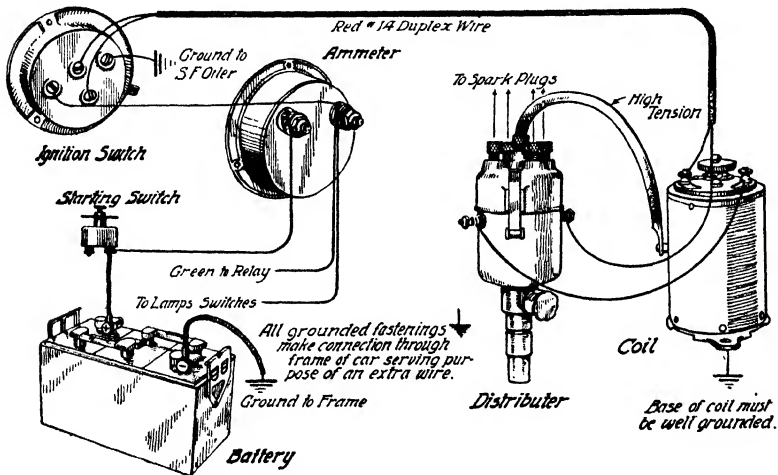

Fig. 125. Essentials of Battery Ignition System
**Remy System.** The relation that the various essentials of a battery-ignition system of the types here described bear to each other is made clear by glancing at the graphic wiring diagram of the Remy system, Fig. 125. The starting switch shown at the left has, of course, no connection with the ignition system but is included in the illustration because the current-supply wire for the latter is connected to one terminal of the starting switch instead of being
*Ignition Switch.* From the ammeter, Fig. 125, the current passes to the ignition switch of the *reversing* type, that is, it serves to change the direction in which the current flows every time it is turned on. For the purposes of either ignition or lighting, it is immaterial in which direction the current flows, but the latter has an important bearing on the life of the expensive contact points in the interrupter. As has been explained previously, the passage of a current through contact points or across a gap tends to transfer the material of the positive electrode to the negative, resulting in the formation of a cone at the positive and a crater, or hollow, at the negative. When the points have worn to this condition through long service, the contact is poor and uncertain, while the points are apt to stick, and to put them in good working order means filing away some of the platinum which is more costly than gold. The use of a reversing switch, which alternately makes the same point positive and negative, keeps both contacts in better condition for a greater length of time.
*Interrupter and Distributor.* The interrupter is enclosed in the same housing as the distributor, Fig. 125, and is directly below it. As with a magneto, the coil is grounded by attaching it to its pedestal